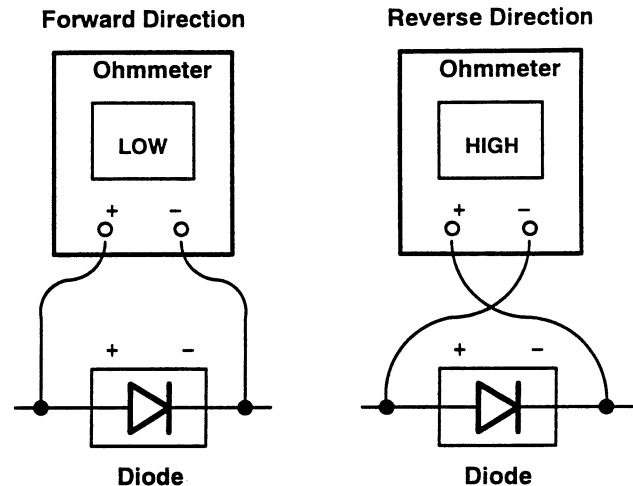

Figure 6-2. Ohmmeter Test Connections
4. Test the forward direction. Figure 6-2.
5. Test the reverse direction. Figure 6-2.